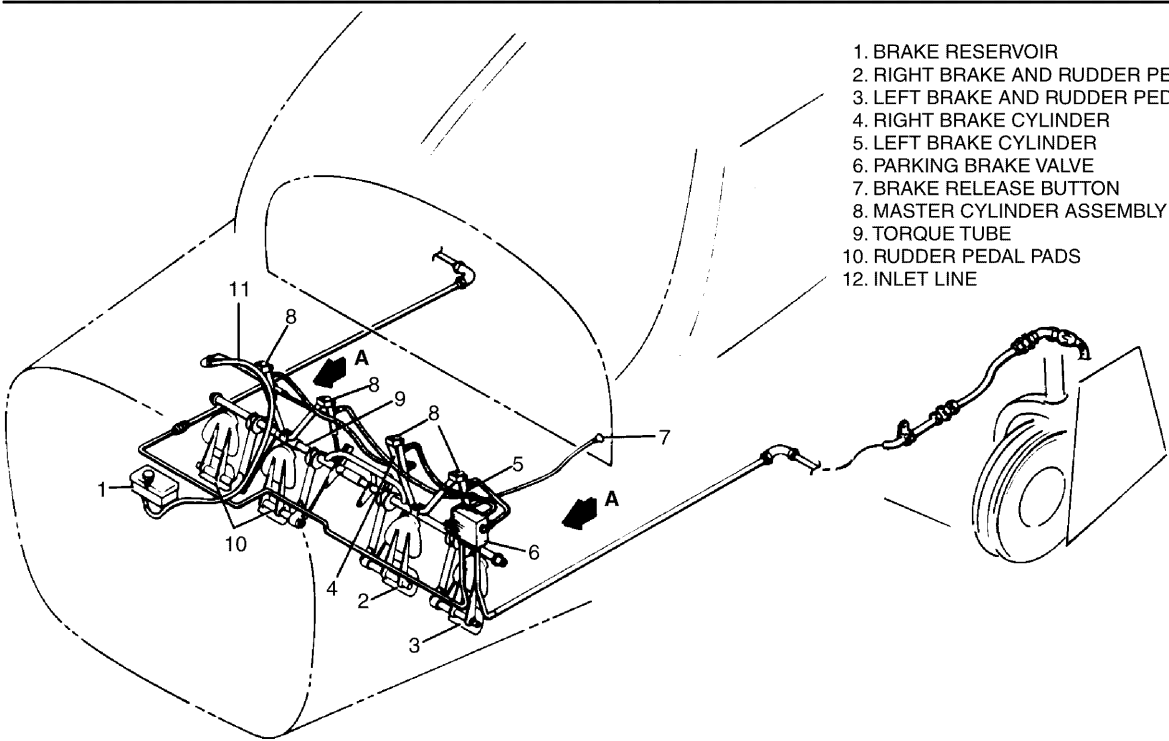
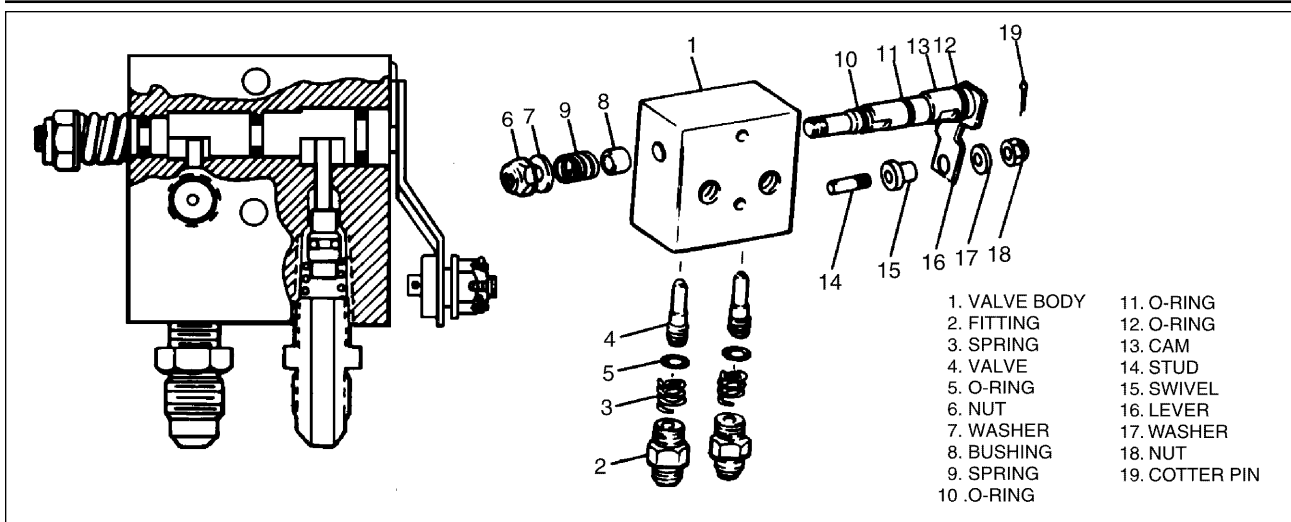

Figure 32-17. Brake Installation
Figure 32-18. Parking Brake Valve Assembly
- (1) Inspection
- (2) Removal (Refer to Figure 32-17.)
- (3) Installation
- (4) Disassembly (Refer to Figure 32-18.)
- (5) Assembly (Refer to Figure 32-18.)
(1) Inspection
(2) Removal (Refer to Figure 32-17.)
(3) Installation (Refer to Figure 32-17.)